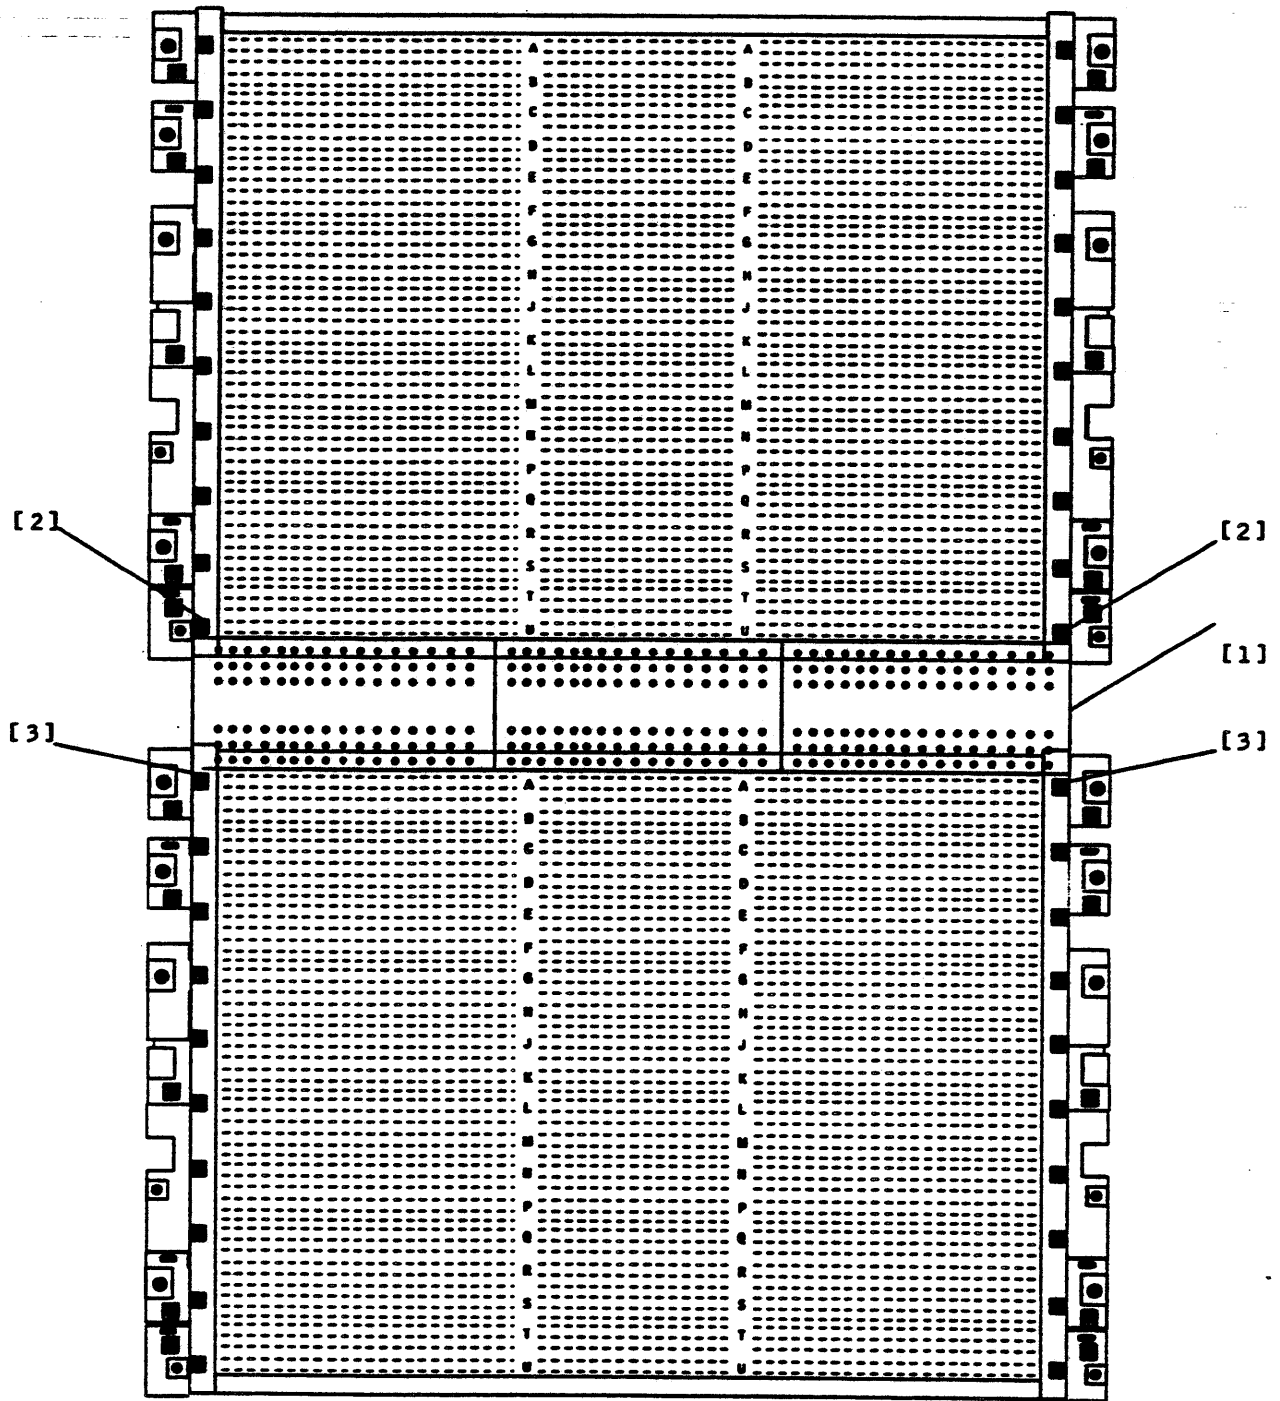
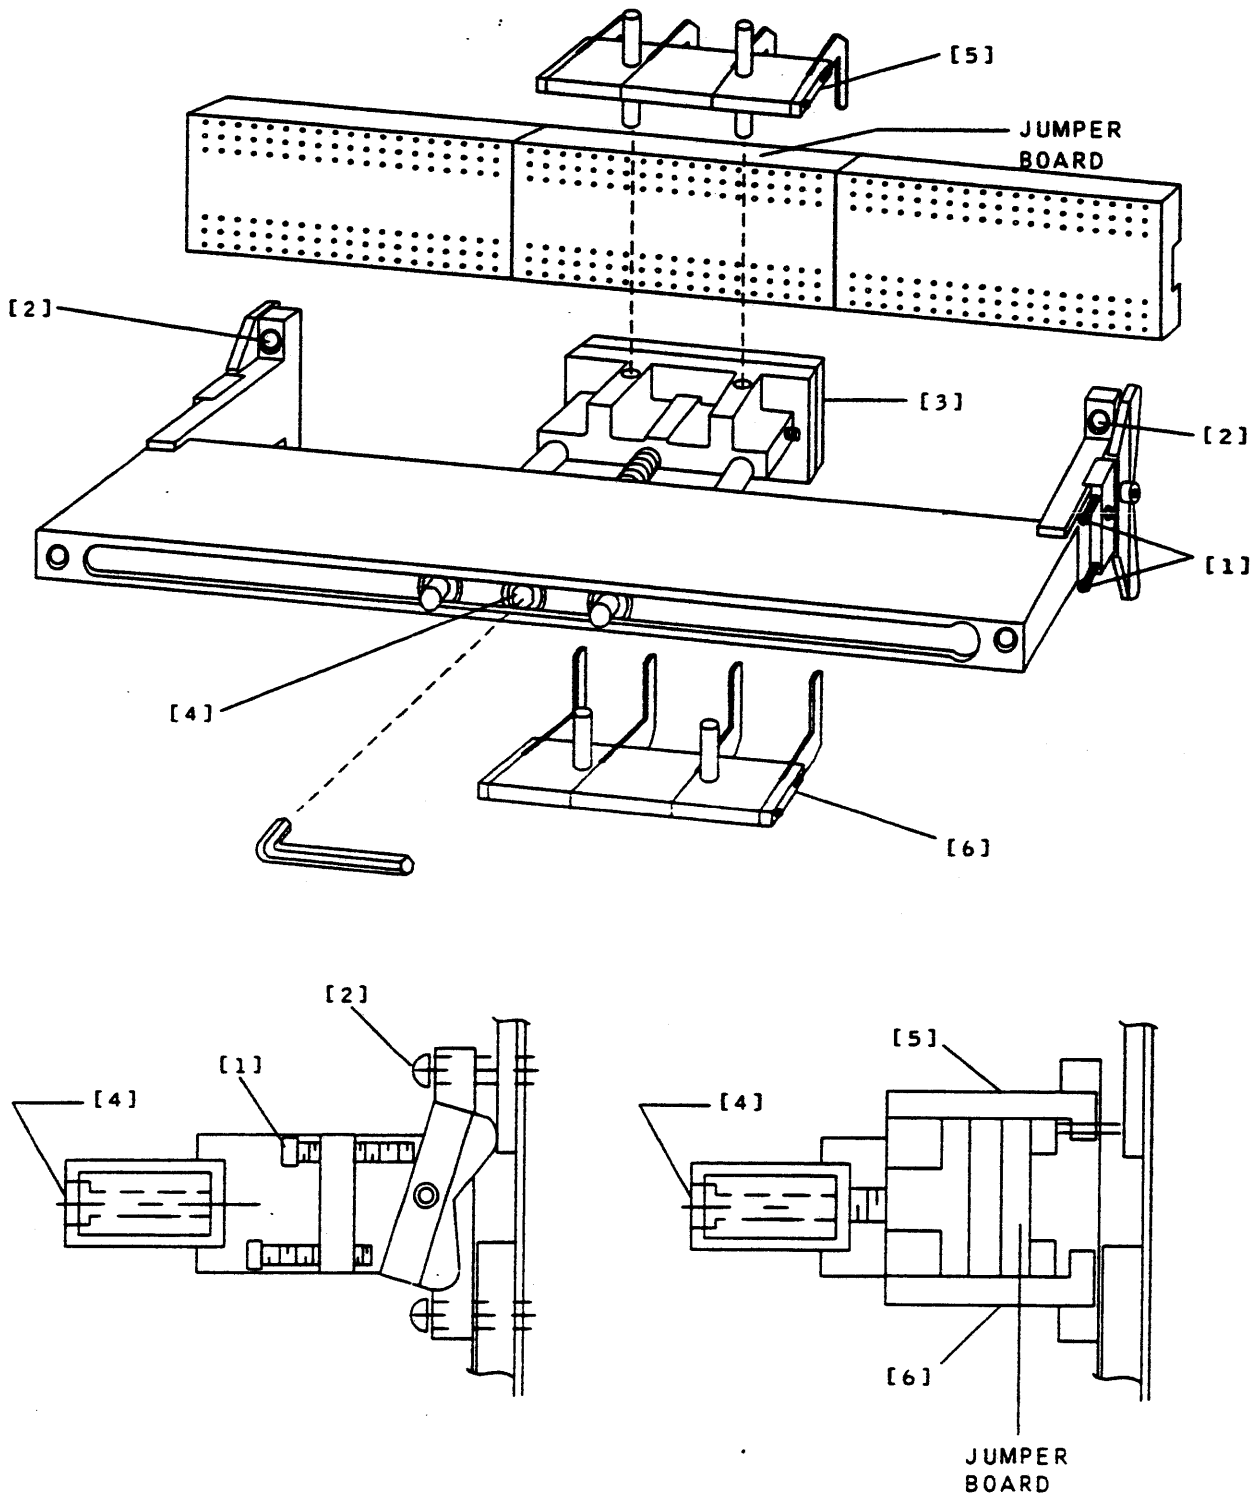

FIGURE 2.37-1. INTERBACKPANEL JUMPER CONNECTOR
FIGURE 2.37-2. INTERBACKPANEL JUMPER CONNECTOR REMOVAL/INSTALLATION
- (4) Locate the faulty interbackpanel jumper connector (see Figure 2.37-1, [1]).
- (5) Using a cross-tip screwdriver, remove the bottom securing screws (left and right sides) from the card module directly above the faulty jumper connector (see Figure 2.37-1, [2]).
- (6) Using a cross-tip screwdriver, remove the top securing screws (left and right sides) from the card module directly below the faulty jumper connector (see Figure 2.37-1, [3]).
- (7) Remove top and bottom set of removal fingers from the insertion/removal tool.
- (8) Loosen the four leveling screws (9/64" hex-head) located on the ends of the insertion/removal tool (see Figure 2.37-2, [1]).
- (9) Using a 1/4" hex wrench, turn the slide assembly hex-head screw (see Figure 2.37-2, [4]) clockwise until the slide assembly will not touch the jumper board when the insertion/removal tool is mounted.
- (10) Mount the insertion/removal tool to the backpanels using the screws and mounting holes from steps 5 and 6 above (see Figure 2.37-2, [2]). DO NOT TIGHTEN.
- (11) Level the insertion/removal tool by following steps 2, 3, and 4 of the leveling procedures written on the instruction label attached to the tool.
- (12) Tighten the four mounting screws holding the insertion/removal tool.
- (13) Move slide assembly portion of insertion/removal tool directly over the jumper board to be removed (see Figure 2.37-2, [3]).
- (14) Using a 1/4" hex wrench, turn the slide assembly hex-head screw (see Figure 2.37-2, [4]) counterclockwise until the slide assembly is nearly touching the jumper board.
- (15) Insert top set of removal fingers between the jumper board to be removed and the backpanel (see Figure 2.37-2, [5]).
- (17) Insert the bottom set of fingers (see Figure 2.37-2, [6]) upward so that they are between the jumper board to be removed and the backpanel. The two pins on the fingers must fit into the two holes on the bottom of the slide assembly.
- (18) Using the 1/4" hex wrench, slowly turn slide assembly screw in a clockwise direction until the jumper board has been completely removed from the backpanel pins.
- (19) Remove the top and bottom fingers and the jumper board.